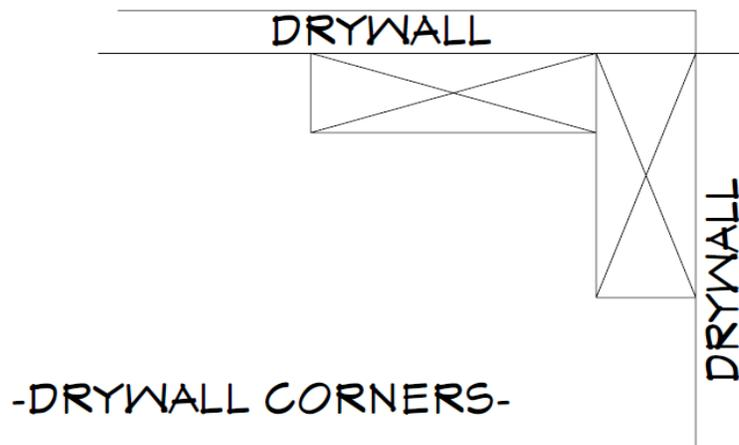

Figure 14-1. Outside Corner Installation of Sheetrock.
13. On outside corners of walls, install a piece of sheetrock on the first wall so its corner side edge is flush with the outside edge of the corner stud. Score and snap (or saw-cut) this piece flush to the corner. (An acceptable tolerance is a maximum of ¼” short of the corner, but do not allow the piece to extend past the outside edge of the corner stud.) Form a recessed corner by installing the second sheetrock piece on the adjacent wall so its edge is flush with the other outside edge of the corner stud. The outside corner ends of the sheetrock should not overlap the corner (see Figure 14-1).